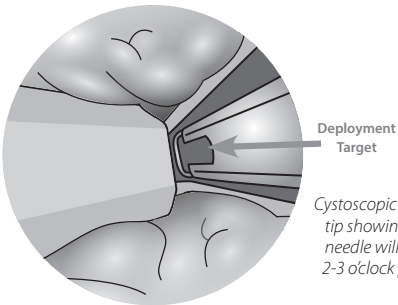

Figure 4
- 2.8 Position the UroLift Delivery Device such that the Deployment Target (**Figure 4**) is against the target prostatic lobe in the lateral direction.